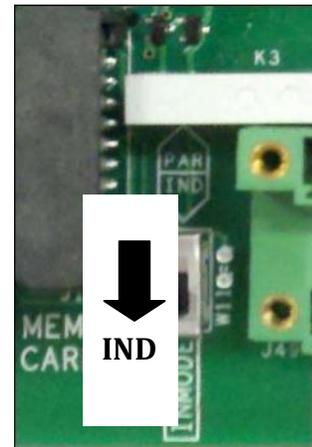

Figure 1.13 - INMODE switch set to IND mode
- Place switch “S1” (shown in Figure 1.13) in the “IND” (default position) position to configure the inverter controls in the independent mode.